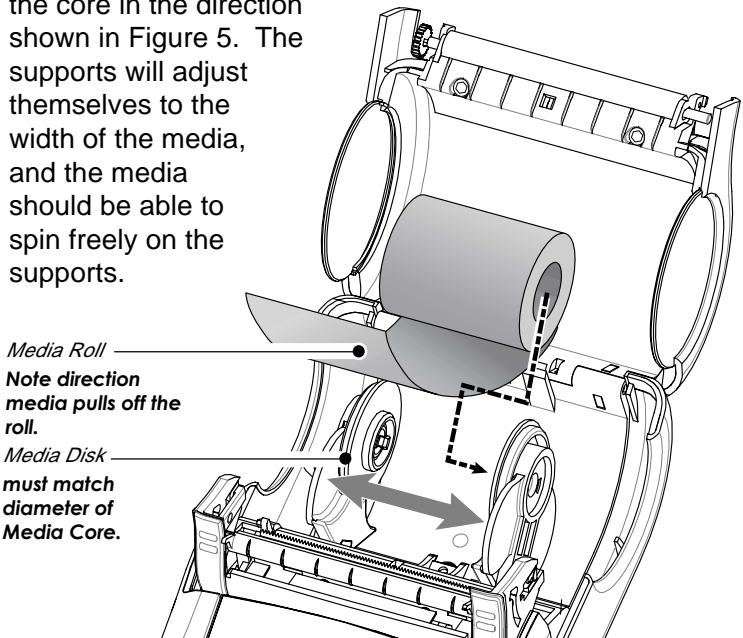

FIGURE 5
2. Load the media: Refer to Figure 5.
- If the media support setting is correct, pull the media supports apart, insert the roll of media between them, and let the media supports close. Insure that the media pulls off the core in the direction shown in Figure 5. The supports will adjust themselves to the width of the media, and the media should be able to spin freely on the supports.